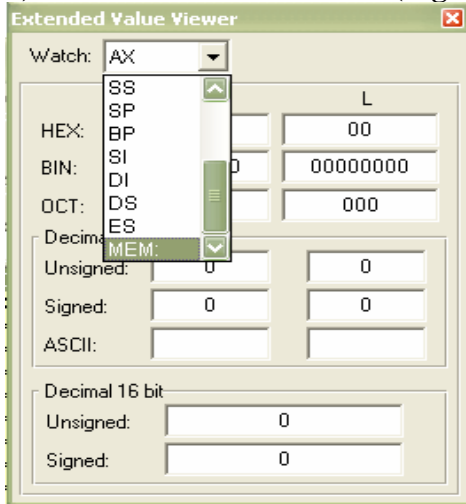

Figure 15
1) Select MEM from Watch (Figure 15).